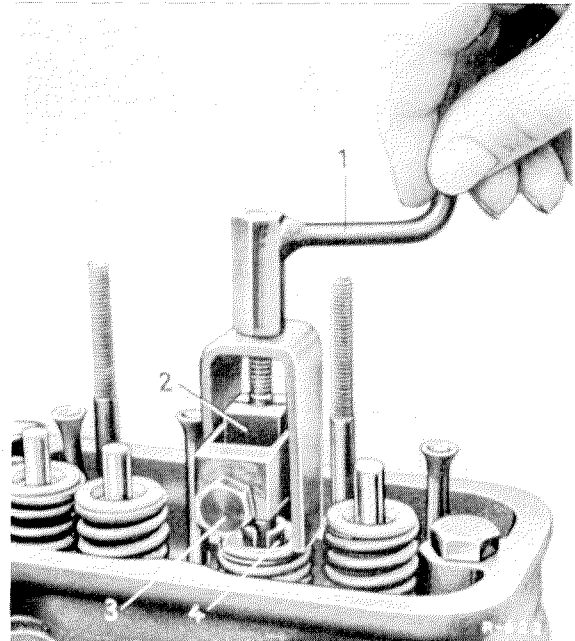

Figure 05-11/1
2. Remove the valves with the Valve Lifter Part No. 636 589 03 31 (see Figure 05-11/1). To do this, place the clamping jaws (2) of the valve lifter over the valve stem end and fasten tightly the screw (3). Then by clockwise turning of the crank (1) compress the valve spring so much that the valve cone halves (4) can be removed (see Figure 05-11/1).